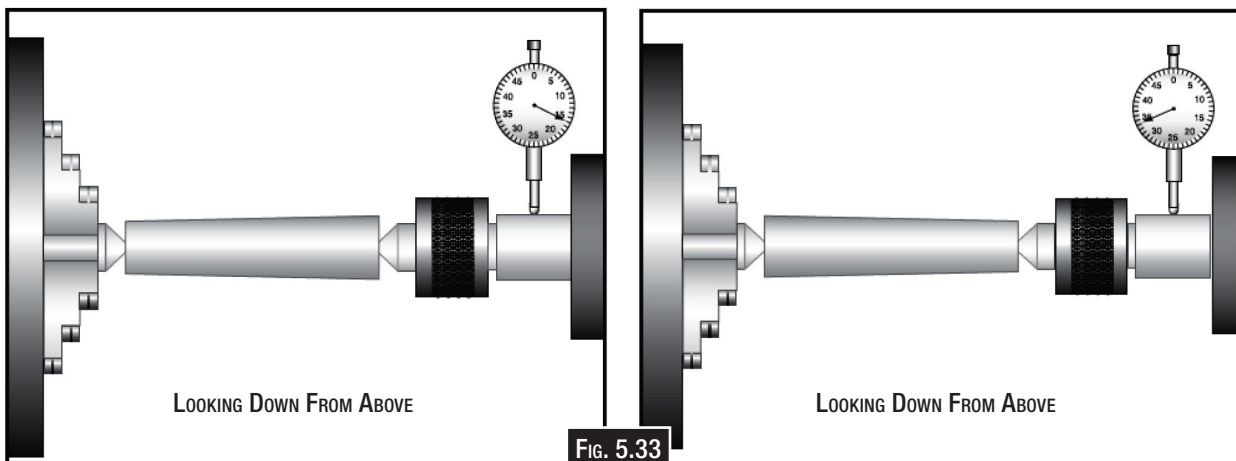

Fig. 5.33
4. Attach a lathe dog to the chuck bar stock from step 1, and mount between the centers. (Fig. 5.33)
6. Mount a dial indicator so that the plunger is on the tailstock quill. (Fig. 5.33)
7. Measure the stock with a micrometer. If the stock is wider at the tailstock end, the tailstock needs to be moved toward the front of the lathe half the amount of the taper. If the stock is thinner, at the tailstock end, the tailstock needs to be moved toward the rear of the lathe by half the amount of the taper. (Fig. 5.33)